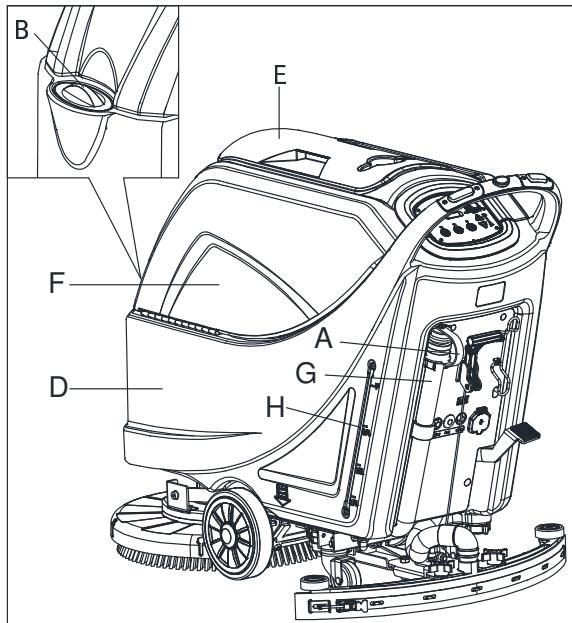

Figure 7
1. Open the water inlet cover (B, Figure 7).
3. Do not overfill the tank, refer to water level indicator (H) for the water volume.